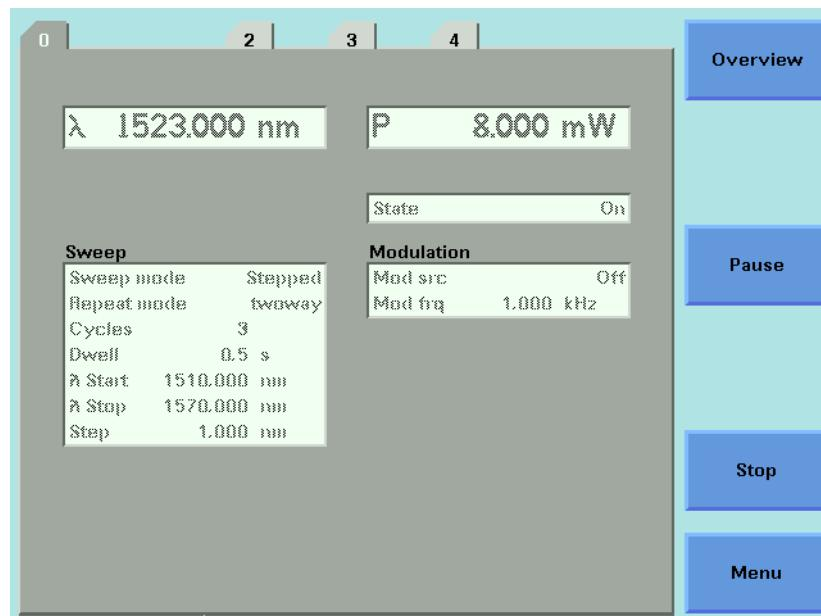

Figure 72 Executing a Stepped Sweep
- 17 Press [*Run Swp*] to start the sweep. The screen in Figure 72 appears.